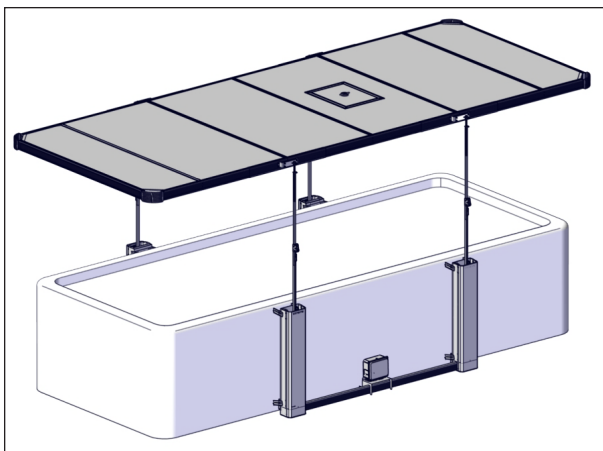

FIGURE 110: JACK RAISING
- Raise the jacks until the system stops at its maximum limit, see Figure 110.